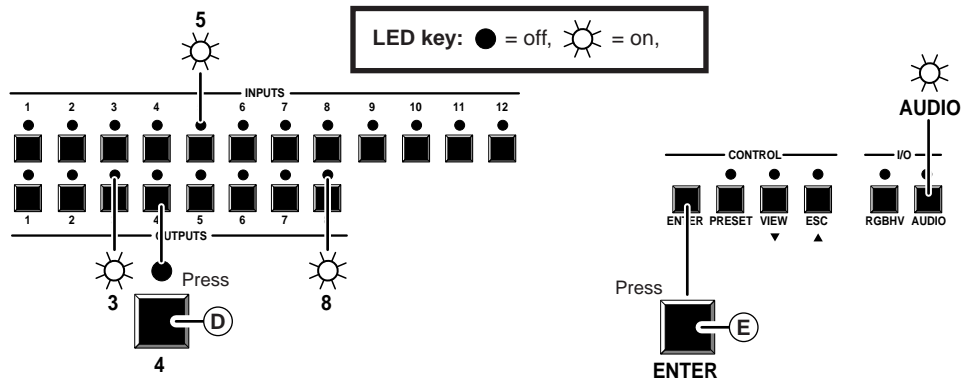

Figure 3-7 — Example 3, step D: Removing an audio tie
- (D) Press and release the output 4 button (figure 3-7). The output 4 LED turns off, while the output 3 and output 8 LEDs remain lit.